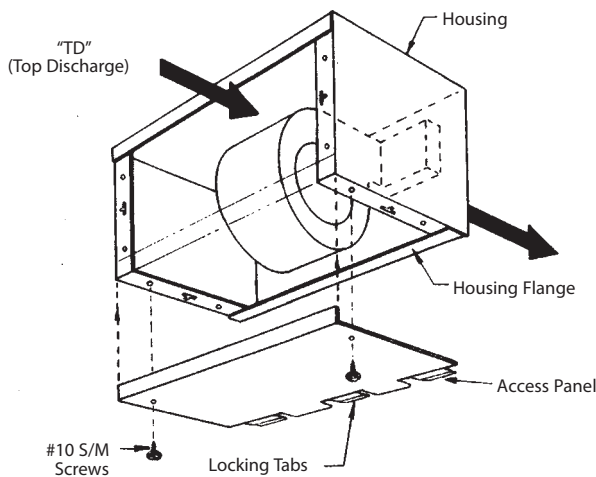

FIGURE 25: "TD" (TOP DISCHARGE)
2. Reassemble the access panel by rotating the access panel 90° and remount it to the housing. Slide in the 3 locking tabs to the housing flange and reinstall the two #10 sheet metal screws. See figure 25.